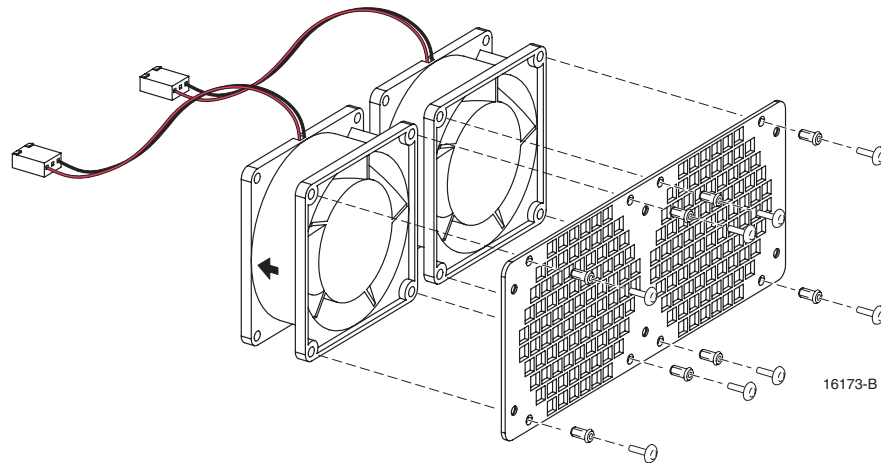

Figure 32. Removing Fan From Grill
8. Remove the four plastic rivets that secure the faulty fan to the grill by pushing outward on rivet center post until the rivet can be withdrawn from the grill as shown in Figure 32.